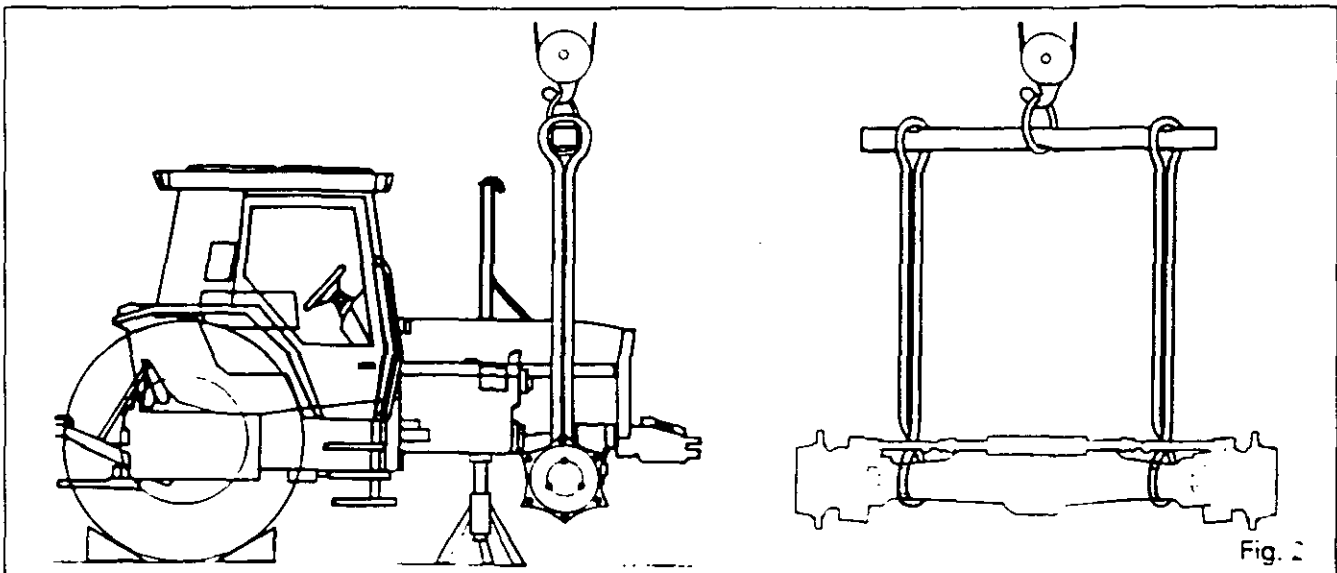

Fig. 2
4. Raise the tractor with a jack positioned under the axis of the axle housing. Place a prop (Fig. 2) under the lower engine housing. Remove the wheels.
6. Place the front axle in slings (Fig. 2).